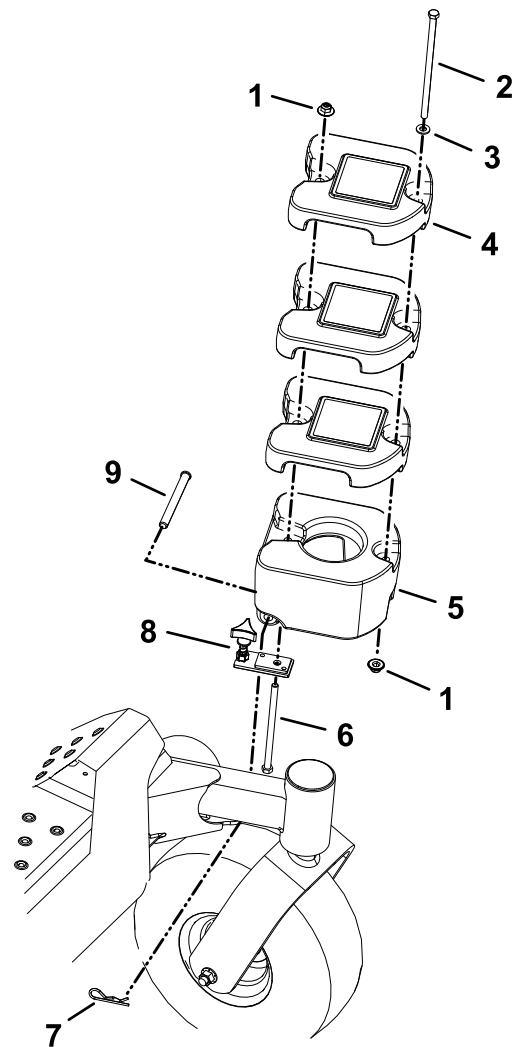

Figure 4
1. Insert the bolt (3/8 x 6-1/2 inches) into hole on the bottom side of the bracket and the rear of the removable 20.4 kg (45 lb) caster weight (Figure 4).
2. Secure the bottom of the bracket to the caster arm using a clevis pin and hairpin cotter (Figure 4).
3. Tighten the knob on the weight assembly until it is clamped securely to the caster arm (Figure 4).
4. Install 3 caster weights (9.1 kg (20 lb) over the weight assembly bolt and stack them securely onto the 20.4 kg (45 lb) caster weight (Figure 4).
5. Secure the rear of the weight assembly with a locknut (3/8 inch) as shown in Figure 4.
6. Install the bolt (3/8 x 8 inches) and washer through the top of the front holes of the weight assembly and secure it using a locknut (3/8 inch) as shown in Figure 4.